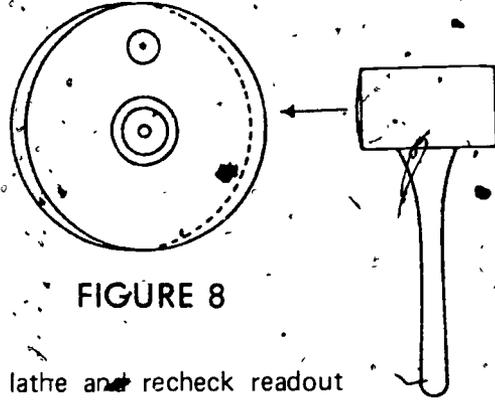

FIGURE 8
- d. Tap crank wheel lightly with soft face hammer at mark (Figure 8)